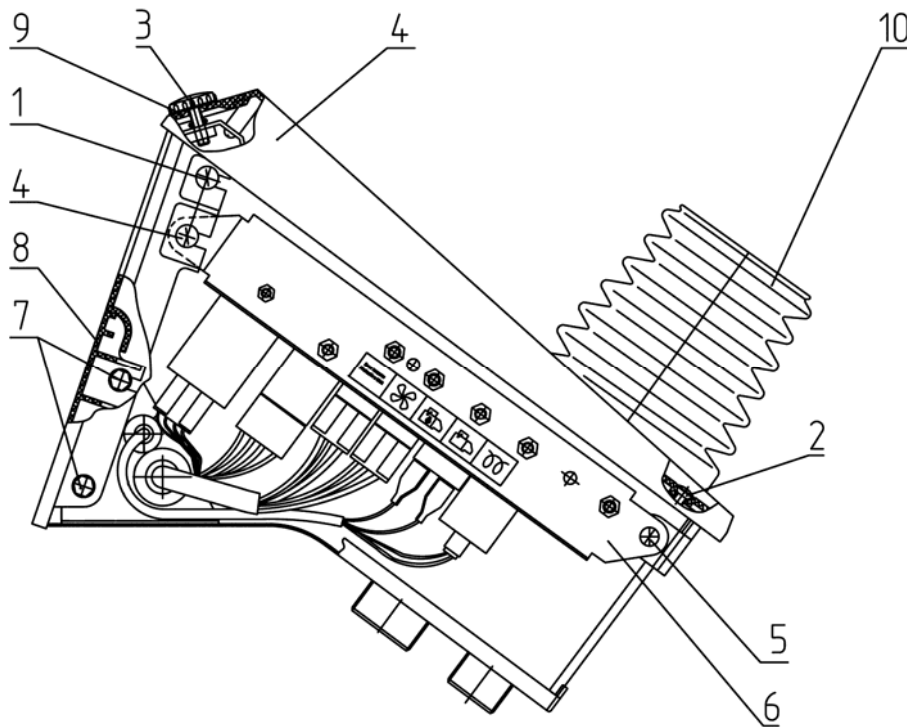

Figure 11.22
- a) unscrew screws 1 (Figure 11.22), 2 and quick-dismounting screw 3;
To replace components without dismounting dashboard (Figure 11.22), do the following:
c) to replace rear wall 7 first unscrew bolts 8, 9 that fasten the wall, unscrew quick-dismounting screw 3, (Figure 11.22) and then remove the wall;